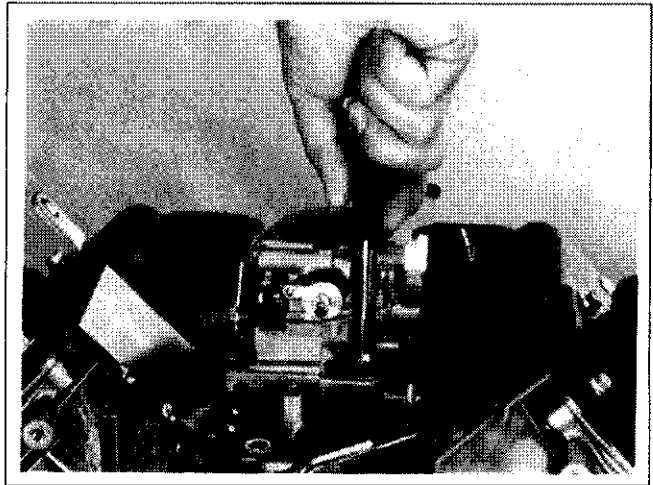

Figure 9-20. Removing Carburetor Retaining Screws.
2. Remove the two carburetor mounting screws. See Figure 9-20.